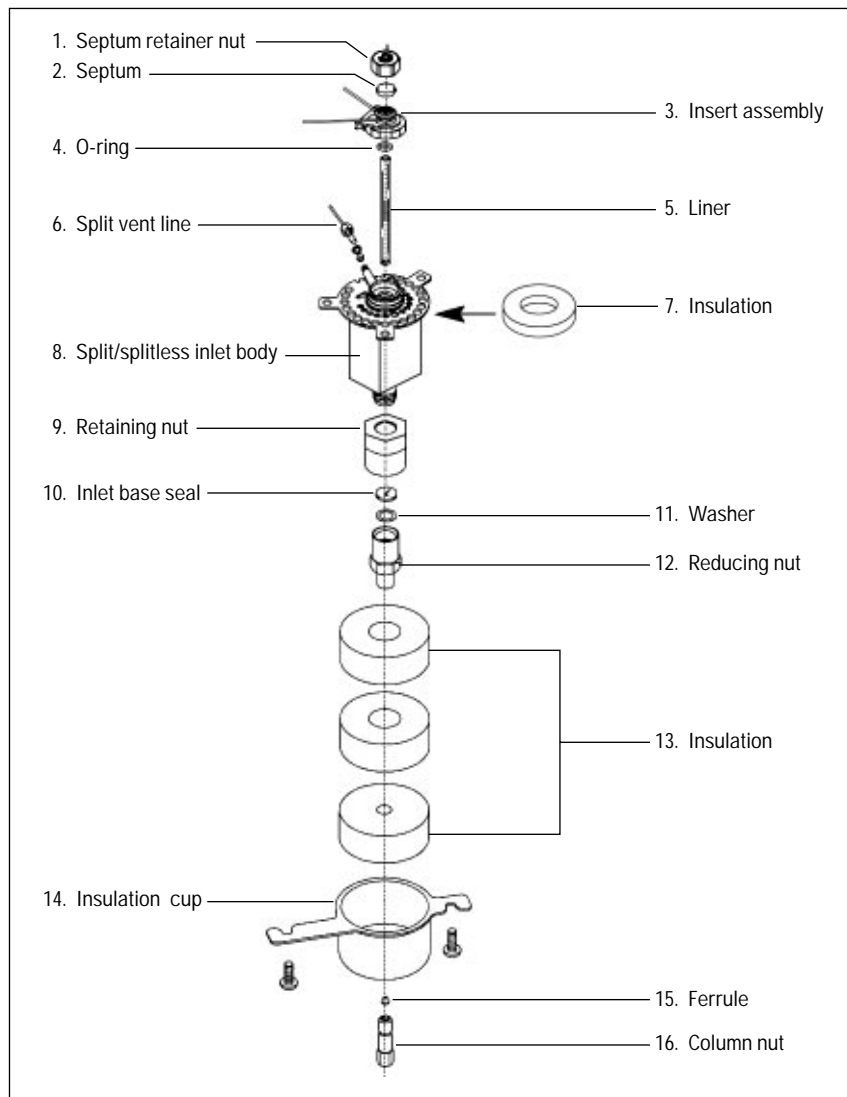

Figure 2. Split/splitless inlet assembly
The split/splitless inlet (Figure 2), has many consumable parts that should be kept on hand. Many of these consumables, such as liners (5), come in a variety of designs (Appendix A). The proper liner to use is very dependent on the application. For trace level analysis, the single tapered, deactivated liner is recommended. The Viton O-ring (4) holding the liner in place should be replaced periodically to reduce the chance of
there are pieces of graphite in the bottom of the injection port, the ferrule(s) was (were) over-tightened. The presence of graphite in a hot injection port can cause thermally labile compounds to degrade. It can also affect the chromatography and cause tailing. Thus, 10% graphite, 90% Vespel ferrules are highly recommended. Vespel ferrules will shrink as they are heated. Conditioning them for 4 hours in a 250°C oven will pre-shrink them before use. Alternatively, the column nuts (Figure 2, #16) can be retightened after the column oven cycles a few times.
Before handling any of the injection port supplies, wash hands and/or wear lint-free gloves. Oils on the hands will be transferred to these parts and become background in the system, requiring extra bakeout time. Washing the hands is especially important after eating. Following the instructions in the GC operating manual (pp. 85–86), remove the septum nut, septum, and liner. Discard the septum, liner and liner O-ring. Open the oven door, loosen the 1/16-inch column nut and remove the column and nut. Remove the insulation cup and any necessary insulation (Figure 2, #14) to provide access to the reducing nut (Figure 2, #12). If the lower insulation cup was not in place, find it, because this piece improves the inlet temperature profile.
With a 1/2-inch wrench remove the reducing nut (Figure 2, #12). Due to heat cycling of the GC, the reducing nut will be very tight. Remove the seal and the washer (Figure 2, #10, #11) and discard. Place a new washer in the reducing nut and a new seal (flat side with groove up). Hand-tighten the reducing nut back into place within the retaining nut and then wrench-tighten until very tight. Replace the insulation cup. Insert a new liner and O-ring. The single taper liners are installed with the taper down, toward the column end of the inlet. Hand-tighten the insert assembly (Figure 2, #3). Add the Merlin Microseal™ or proper